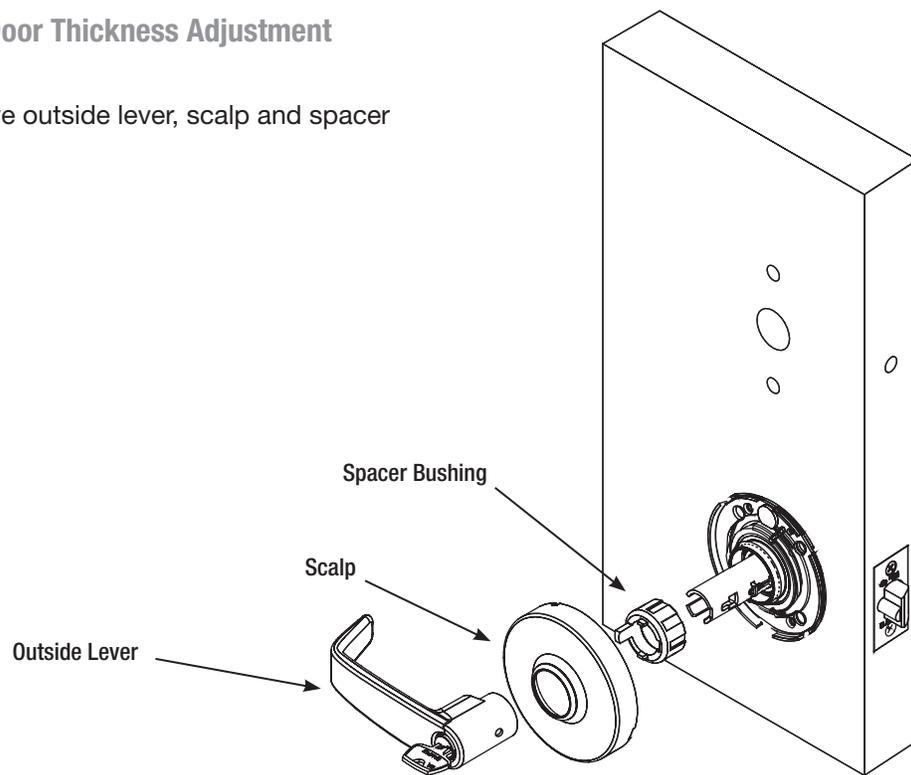

Fig. 6C
1. (If necessary) remove outside lever, scalp and spacer bushing (Fig. 6C).
Refer to markings on through-bolt post (Fig. 6C Detail).